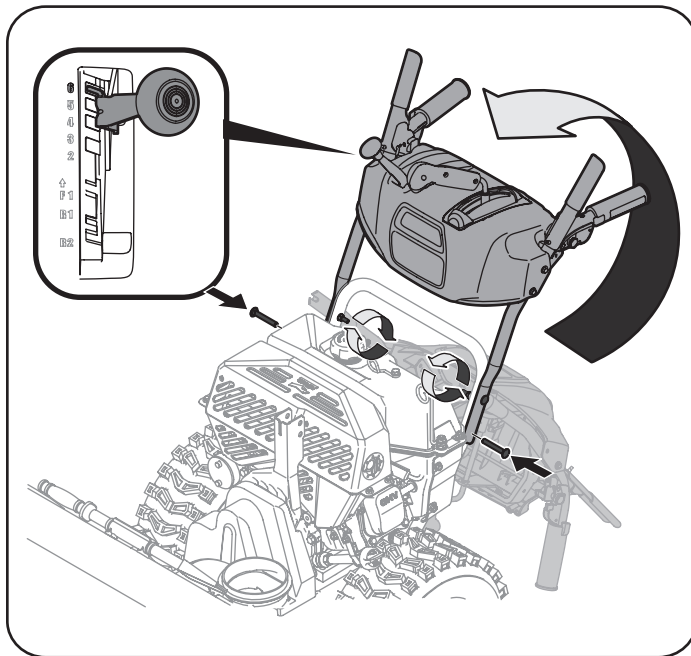

Figure 1
- c. Pull up and back on upper handle as shown in Figure 1. As you are raising the handle upward, make sure that both ends of the center cable are positioned properly in the brackets. Align upper handle with the lower handle.